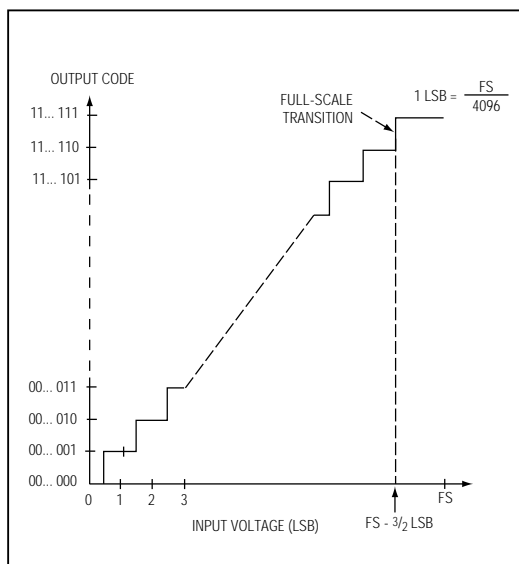

Figure 10. Unipolar Transfer Function
Output data coding for the MAX196/MAX198 is binary in unipolar mode with 1LSB = (FS / 4096) and two's-complement binary in bipolar mode with 1LSB = [(2 x |FS|) / 4096]. Code transitions occur halfway between successive-integer LSB values. Figures 10 and 11 show the input/output (I/O) transfer functions for unipolar and bipolar operations, respectively. For full-scale (FS) values, refer to Table 1.